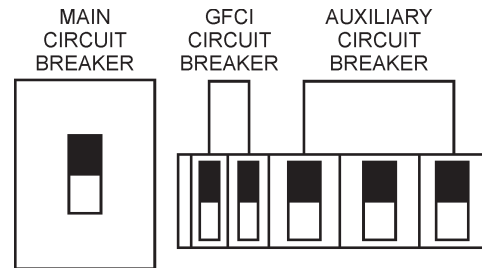

Figure 47. Main, Aux. and GFCI Circuit Breakers (ON)
11. Place the **main, GFCI, and aux.** circuit breakers in the **ON** position (Figure 47).